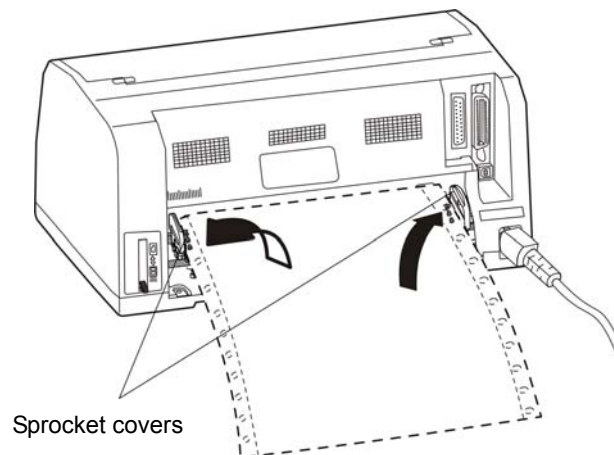

Figure 3-11 Placing the paper on the tractor
6. Open the sprocket covers and place the paper on the sprocket pins. (As Figure 3-11 shown)